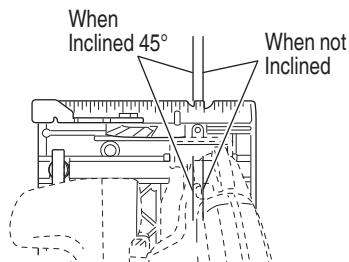
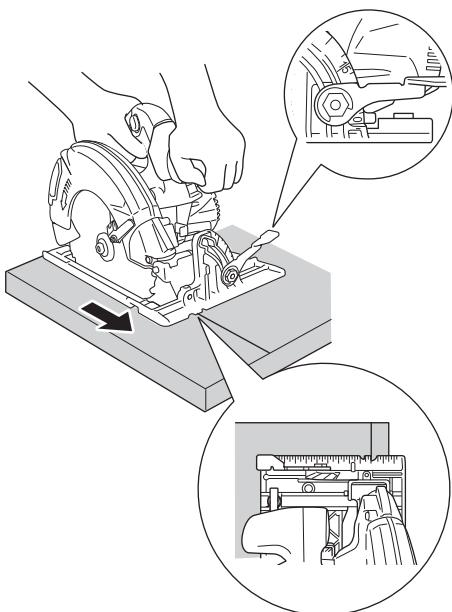
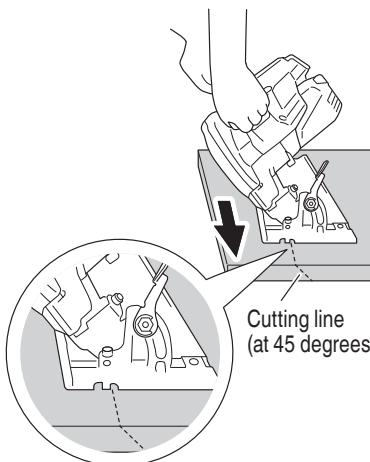

Fig. 28
Fig. 29
Fig. 30
- (1) Place the base on the material, then align the premarked line and the saw blade with the notch at the front of the base (Fig. 28).
- (2) When the base is not inclined, use the right side of the notch (Fig. 28, Fig. 29).
If the base is inclined (45 degrees), use the left side of the notch (Fig. 28, Fig. 30).
4. Tilt saw forward and align the notch (Fig. 28) with the pre-marked guide line.